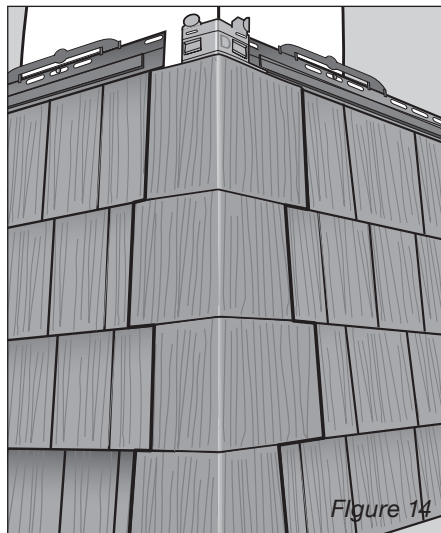

Figure 14
4. Continue installing the corner pieces as you move up the wall. Following the pattern of A, B, C, D and then repeat (*Figure 14*).